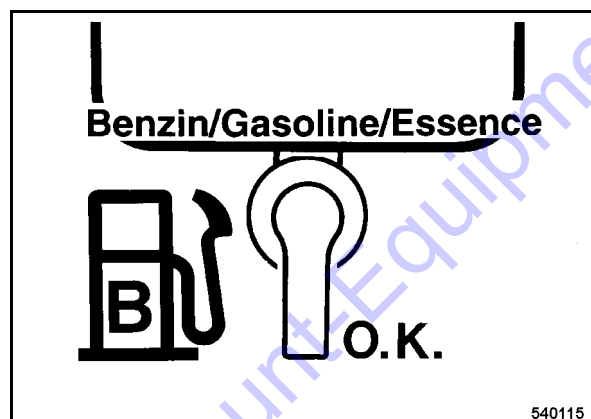

Fig. 10
- Open the fuel cock (Fig. 10).